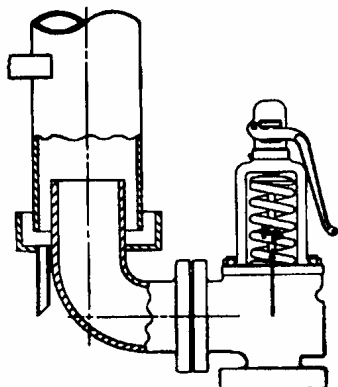
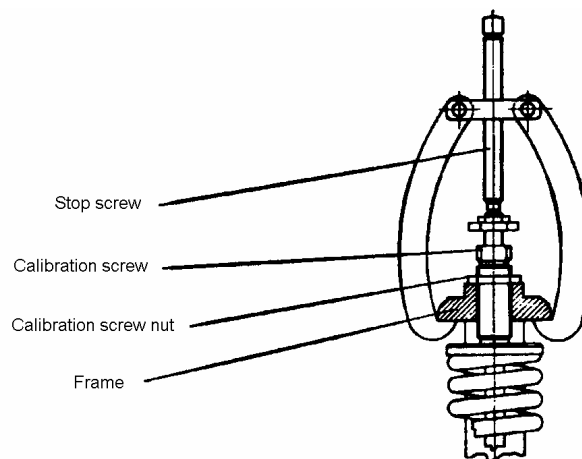

Fig. 1 - Valve closed
Fig.4
The figure on the left shows a CSV88 safety valve in its various operating modes. When the valve is closed (*Fig. 1*), an upward force is exercised on the valve collar by to the internal pressure of the valve. Valve collars are built in such a way as to withstand the force (F_p) and tangential stress caused by internal valve pressure.
As it is best not to alter the valve calibration, before performing the hydraulic test block the disk with the stop screw with bracket (see Fig.4).
To do this (see Figs.1 and 2), remove the seal and split pin, pull out the pin (13) and the lever (17 or 25), loosen the cap screw (18) and pull out the cap (16 or 24); then fit the stop screw with bracket to the frame (9) see Fig.4.
To modify the calibration pressure of a safety valve, proceed as follows: (see Figs.1 and 2), remove the seal and split pin, pull out the pin (13) and the lever (17 or 25), loosen the cap screw (18), pull out the cap (16 or 24), loosen the safety nut (12) and turn the calibration screw (11) clockwise to increase calibration pressure.